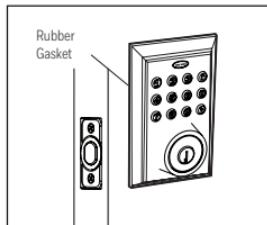

Figure 8a
- b. Check that the Rubber Gasket is properly seated on the Exterior Assembly (Figure 8a).
- e. Check that the Rubber Gasket is properly aligned and correct as necessary (Figure 8a).